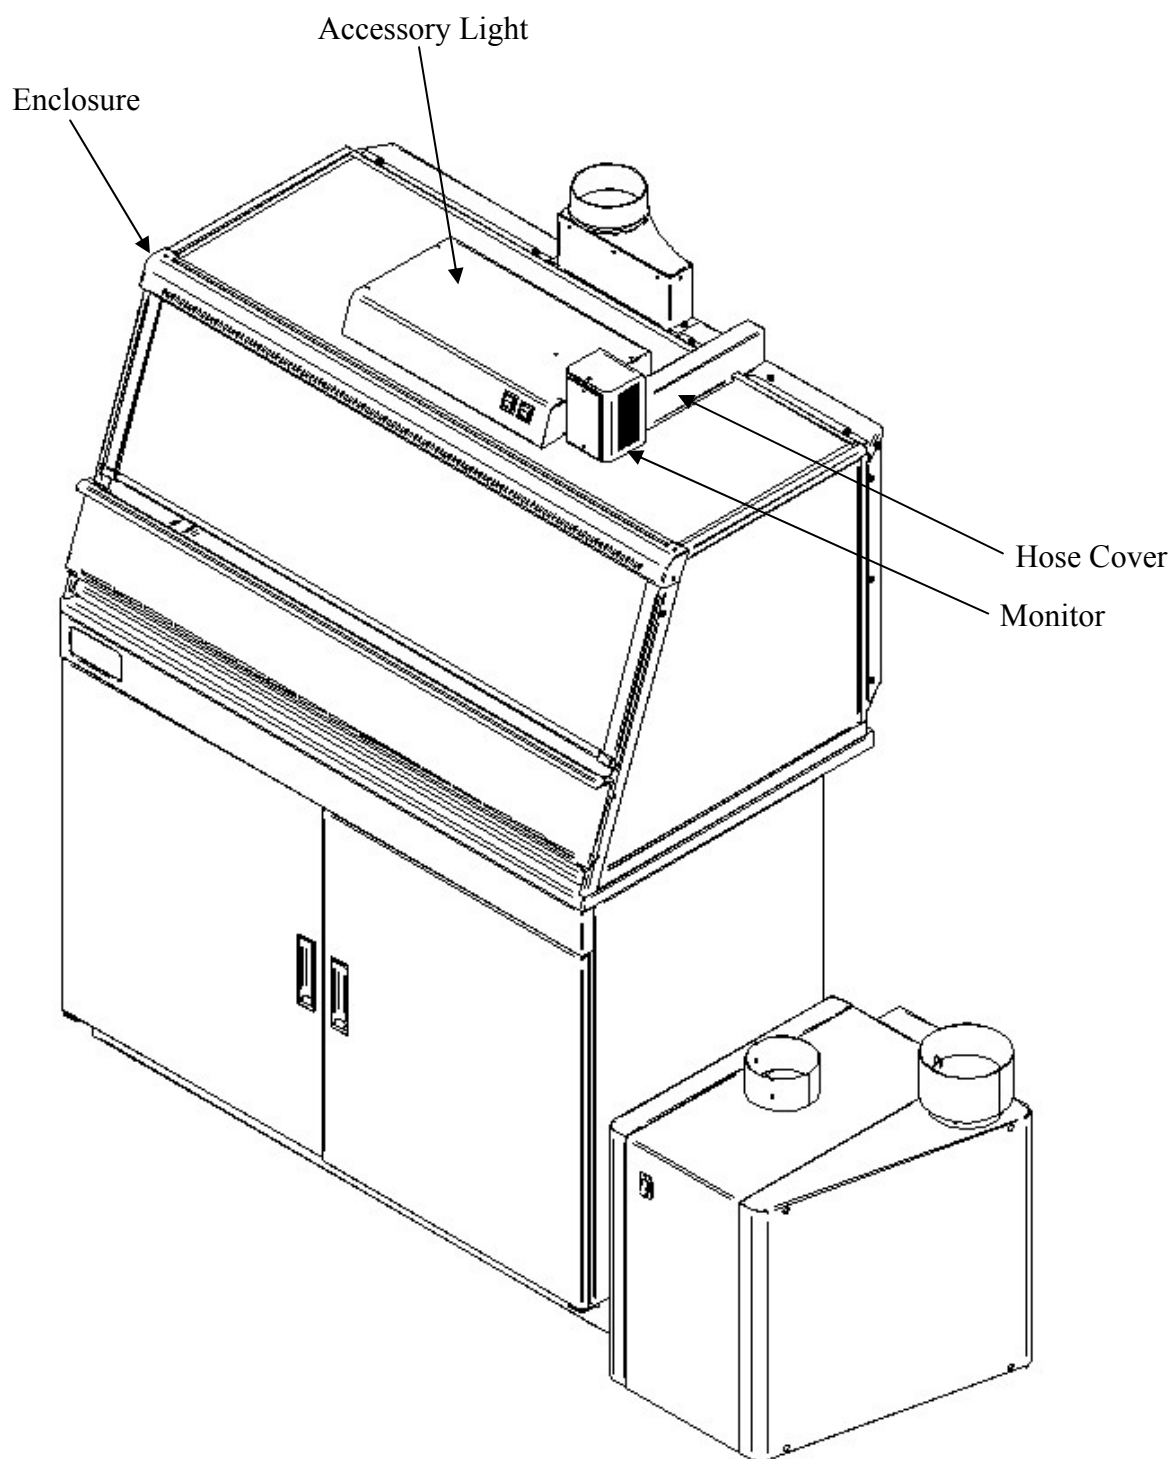

Figure 6-4
4. Secure the Guardian 500 Airflow Monitor to the enclosure with double stick tape as shown in Figure 6-4. The airway passage between the alarm module and the enclosure is now complete.
5. Locate the metal hose cover and install with double stick tape per Figure 6-4.